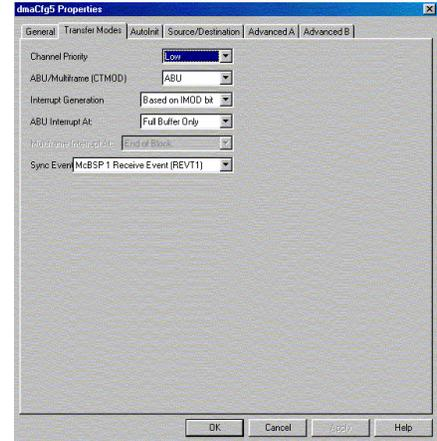

Figure 20. DMA dmaCfg5 Transfer Mode tab
- In the *Transfer Modes* tab, set options as shown in Figure 20. Select Auto Buffer Mode and synchronize to McBSP receive event. Set Interrupt to occur when buffer is full.